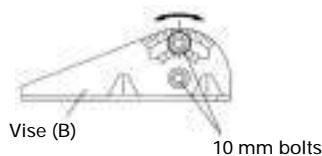

Fig. 5
- (1) The machine permits cutting at angles of 45° or 60°.
- (2) Loosen the two M10 hexagon socket head bolts on the vice (B), then set the working surface on the vice-jaw at any angles of 0°, 30°, or 45° as shown in Fig. 5. Upon completion of setting, securely tighten the two M10 hexagon socket head bolts.